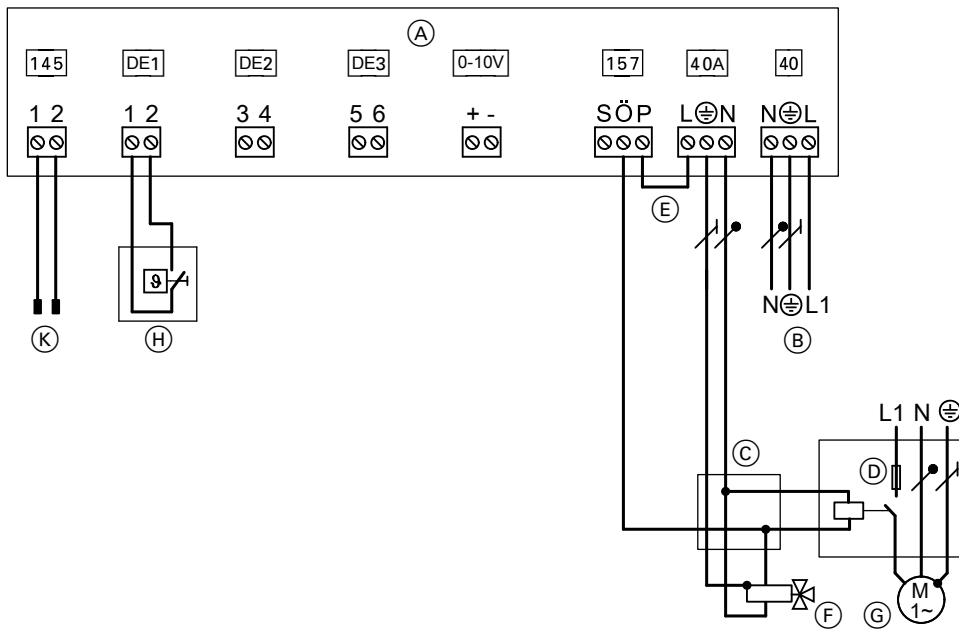

Fig. 38
- *Make connections to EA1 extension **only** in accordance with Fig. 38.*